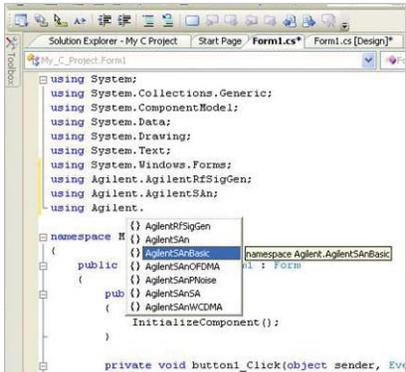

Figure 2. Depending on the context, the *Intellisense* popup window will show available drivers or installed drivers.
4. Create an instance of each driver by adding a *using* statement to allow your program to access the driver. For an Agilent driver, type “using A” and *Intellisense* will show the available Agilent drivers (e.g., *using Agilent.A* will pop up the list of installed drivers). Put this directly beneath the other using statements in your code. See Figure 2 for an example of the *Intellisense* popup.